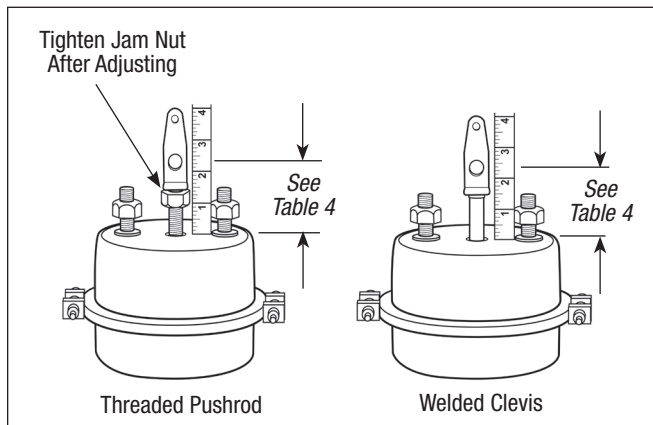

Figure 41 – Air Chamber Inspection
2. If the air chamber is repaired or replaced, check the distance from the clevis pin hole centerline to the air chamber face. Refer to Figure 41 and Table 4 for manual slack adjusters. For self-adjusting slack adjusters, refer to the manufacturer’s guidelines.